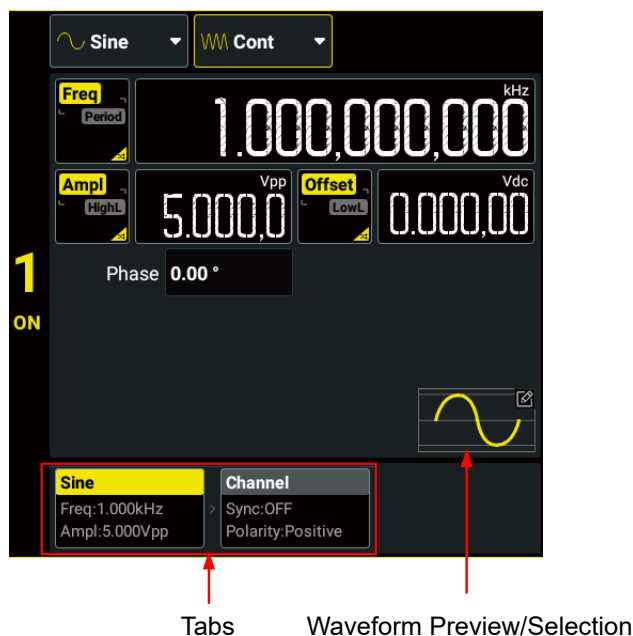

Figure 5.1 Continuous Setting Interface
- In the Continuous Setting Interface (*Figure 5.1*), click or tap the "Wave Type" drop-down button to select "Sine".
- In the Continuous Setting Interface (*Figure 5.1*), click or tap the "Waveform Preview/Selection" area and then click or tap **Built In Wforms > Sine**.
- In the Continuous Setting Interface (*Figure 5.1*), click or tap the "Wave Type" drop-down button to select "Square".
- In the Continuous Setting Interface (*Figure 5.1*), click or tap the "Waveform Preview/Selection" area and then click or tap **Built In Wforms** > **Square**.
You can also click or tap the "Channel" tab in Figure 5.1 interface to access the channel setup interface to configure channel output. For details, please refer to Channel Setup.
- In the Continuous Setting Interface (Figure 5.1), click or tap the "Wave Type" drop-down button to select "Ramp".
- In the Continuous Setting Interface (Figure 5.1), click or tap the "Waveform Preview/Selection" area and then click or tap **Built In Wforms** > **Ramp**.